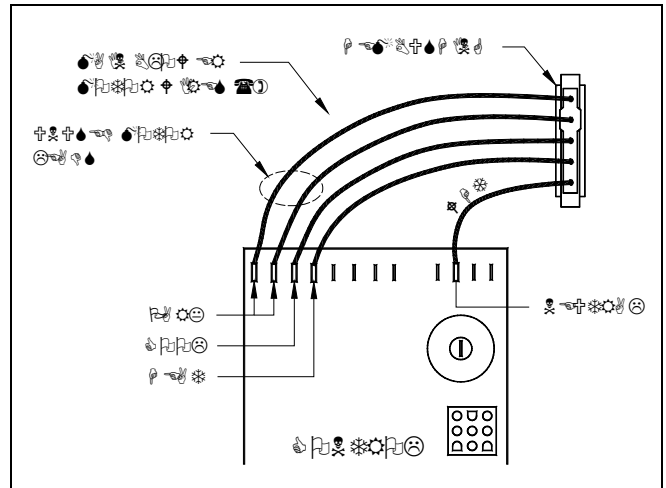

Figure 30. Main Blower Speed Selection.
3. To change cooling speed, move the desired motor lead to the terminal marked 'COOL' on the Control. See Figure 30. Initial factory setting for cooling is high speed (black wire).
4. To change the heating speed, move the desired motor lead to the terminal marked 'HEAT' on the Control. See Figure 30. Factory setting for heating is listed in Table 10. Heating speed should not be reduced below factory setting.
5. Connect the two unused motor leads to the terminals marked "UNUSED MOTOR LEADS" or "PARK" on the Control. See Figure 30.